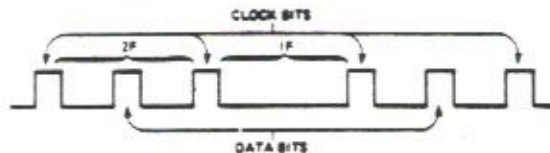

FIGURE 1 DATA PATTERN
Data is recorded on the Micro Wafer (TM) using frequency modulation as the recording mode, i.e., each data bit recorded on the Micro Wafer (TM) has an associated clock bit recorded with it. Data written on and read back from the Micro Wafer (TM) takes the form as shown in figure 1. The binary data pattern shown represents a 101.